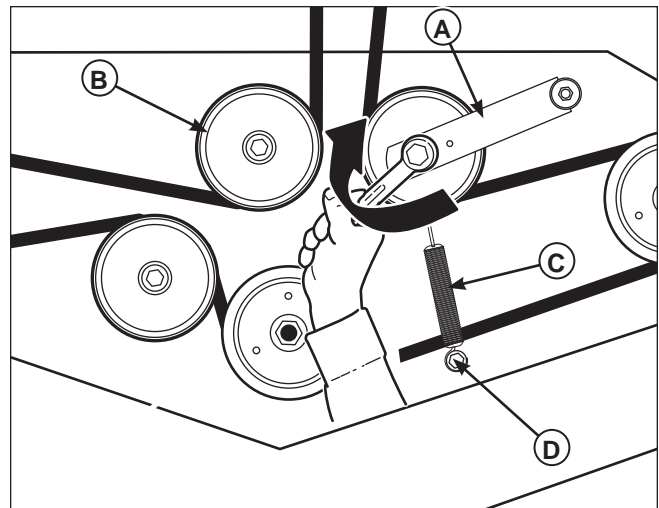
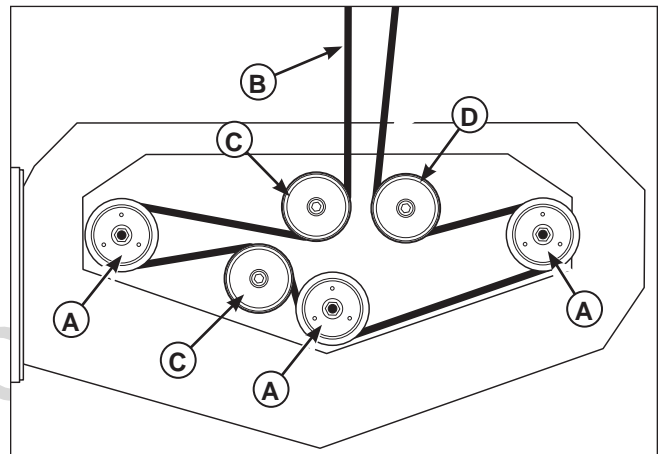

Figure 20. Mower PTO Belt
Figure 21. Mower PTO Belt Routing
3. Using a 3/4" combination wrench, place the box end on the 1/2" nut located on the end of the idler arm (A, Figure 20). Carefully rotate the breaker bar CLOCKWISE, which will relieve the tension on the belt exerted from the idler arm.
4. Slide the drive belt over the edge of the stationary idler pulley (B). Carefully release the tension on the breaker bar until the idler arm comes to a stop.
7. Install the drive belt on the PTO pulley, the spindle pulleys, and all idler pulleys except the stationary pulley. Carefully rotate the 3/4" combination wrench CLOCKWISE and install the belt on the stationary idler pulley. Carefully release the tension on the 3/4" combination wrench. The belt should be routed exactly as shown in Figure 21.